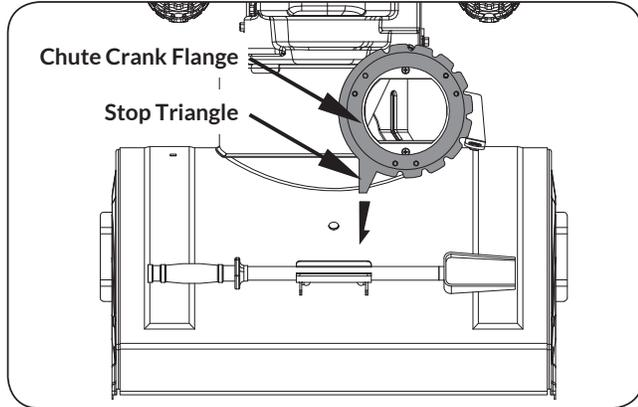

Figure 5a
1. Sit the chute crank flange on top of the impeller housing. Make sure the stop triangle points forward so that the notched edge are on the left side and the pre-greased surface is on the bottom. (See **Figure 5a**)